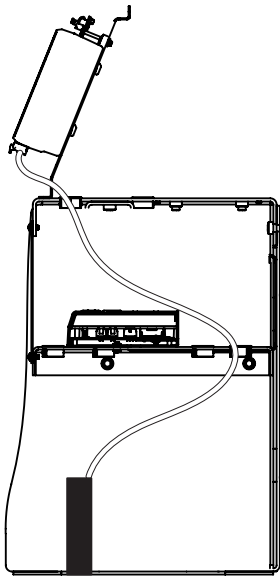

Figure 34. Route Relay Wires
2. Route the relay wires to the SmartCNX Controller (Figure 34).